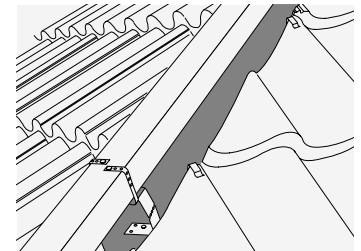

Fig. 6 - Fixing hip batten
- Secure either one or two thicknesses of 50mm x 25mm tiling batten to the top of Batten Brackets, parallel to hip rafter, by folding over Batten Bracket arms and nailing through perforations into the battens using nails provided (Fig. 6).